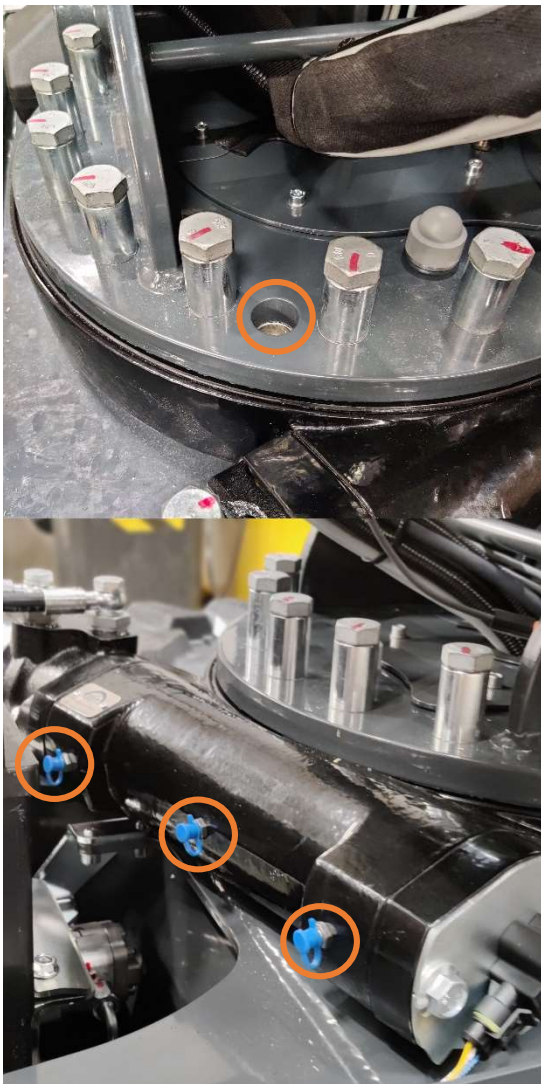
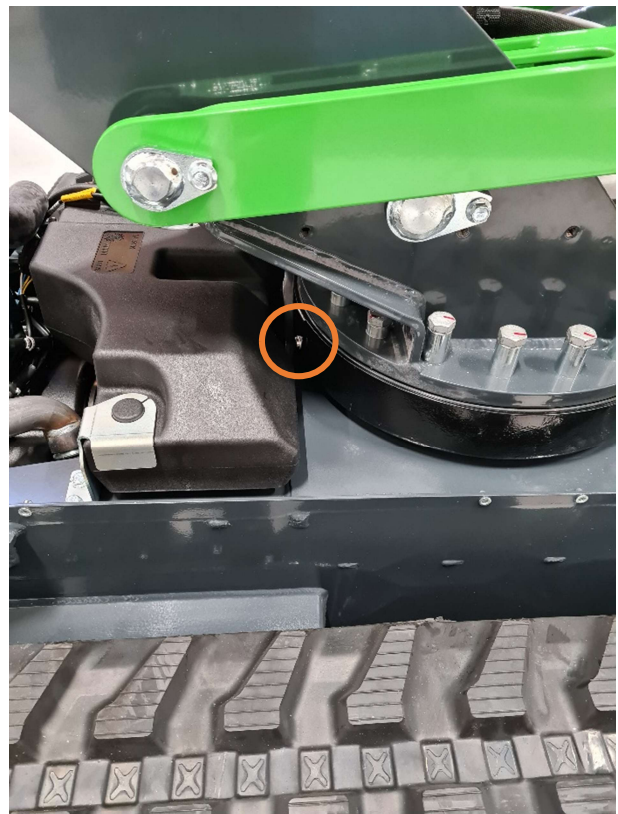

Figure 20. Slew ring greasing points
Figure 21. Slew ring greasing pressure relief screw
The slew ring of the access platform must be greased monthly. It is important to notice that the slew ring has four (4) separate greasing points (figure 20) which all must be greased individually. There is a pressure relief screw (figure 21) at the opposite side of the worm gear of the slew ring which must be opened when greasing the slew ring to avoid the seal from coming off. A coupling and a tube can be mounted as an option instead of this screw. In this case it does not need to be opened. There are 3 greasing points next to the battery on the side of the slew ring which are connected to the worm gear and its bearings. One (1) greasing point which is on the top of the slew ring (hole through the pedestal) is connected to the rings ball bearings. When applying grease to this greasing point, it is important to apply grease all around the slew ring. To do this, apply grease and rotate approximately 20° after which apply grease again. Continue until the slew ring is completely greased (360°).